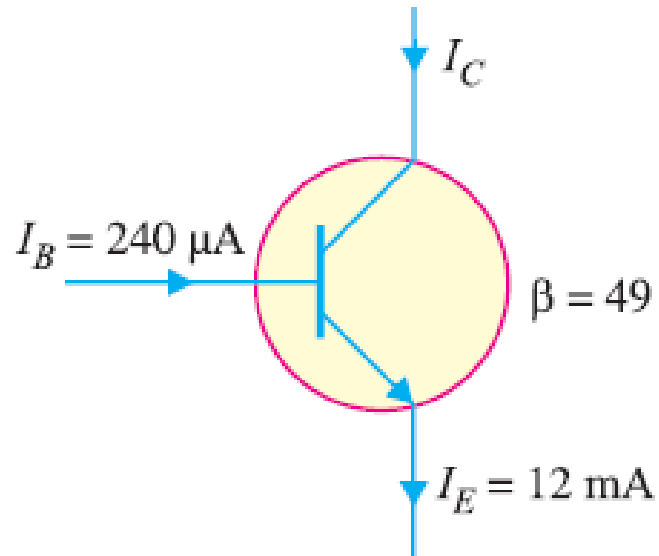

Fig. 4
- Find the α rating of the transistor shown in Fig. 4. Hence determine the value of I_C using both α and β rating of the transistor.